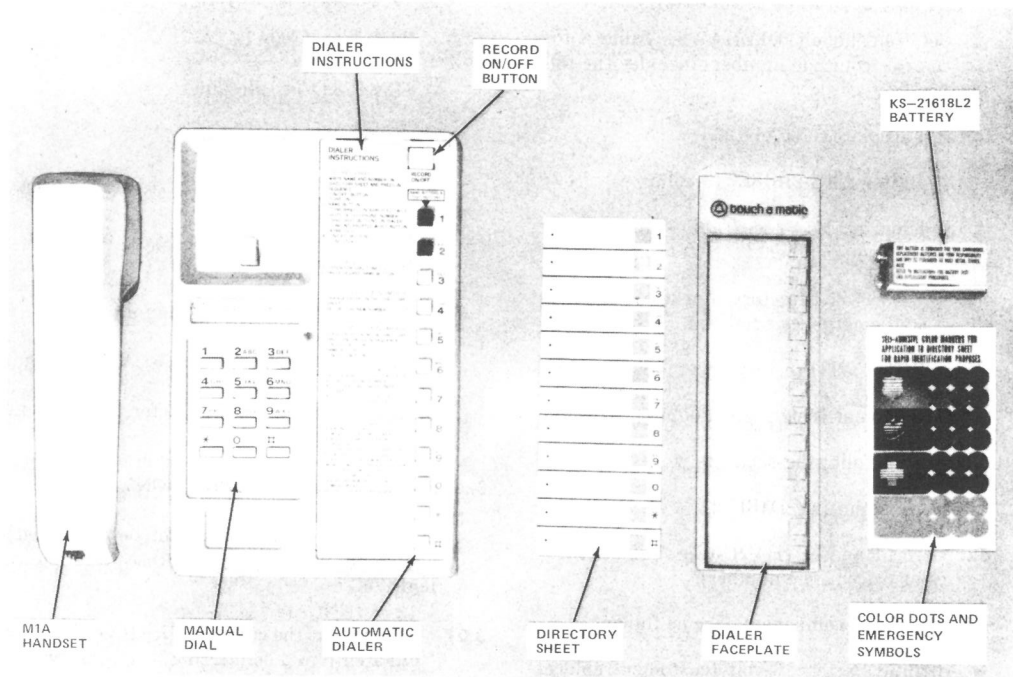

Fig. 2—5001T01A Telephone Set With Handset, Dialer Faceplate, Directory Sheet, and Battery, Removed
- Show 5001T01A-51 and 5001T01A-58 manufacture discontinued (MD) (Table A)
- Add emergency symbols (Fig. 2).